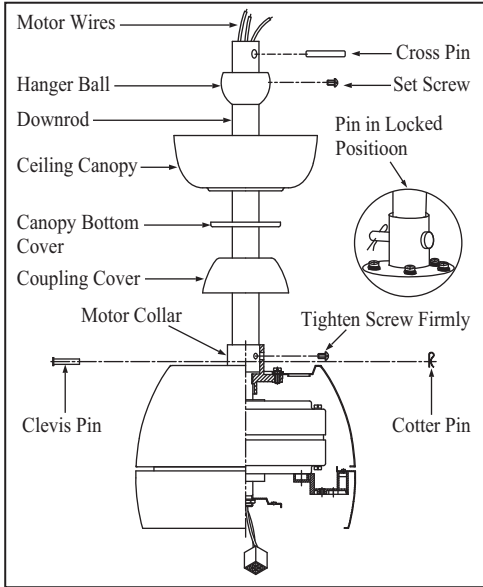

Figure 9
6. Slip coupling cover, canopy cover and canopy onto downrod. Carefully reinstall hanger ball onto rod being sure that cross pin is in correct position, set screws are tighten and wires are not twisted. (Figure 9)